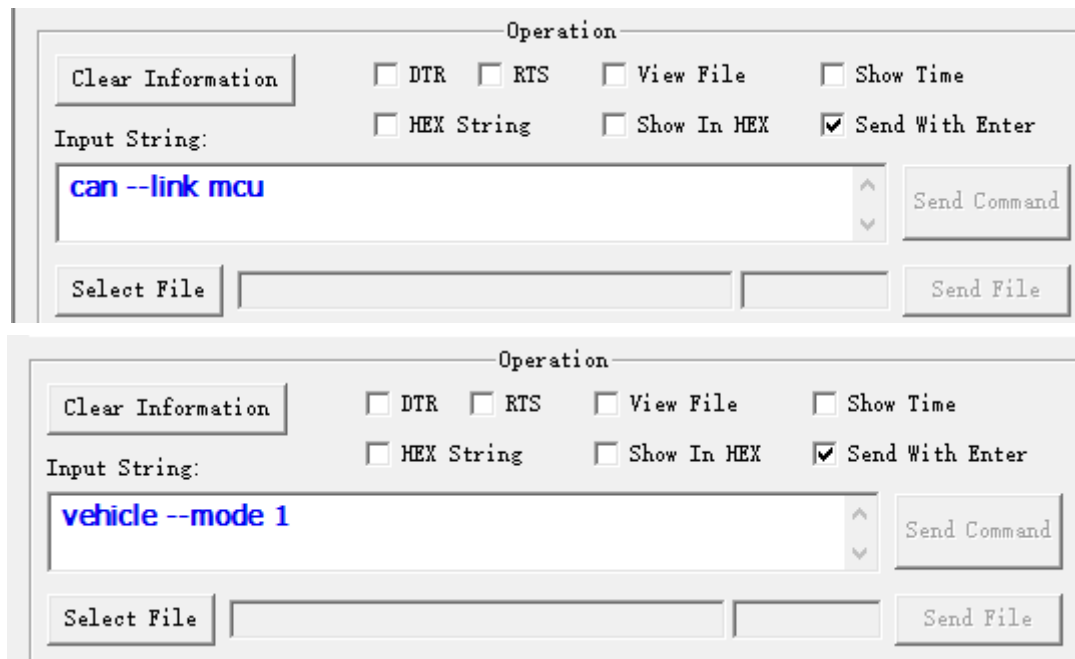

Figure 17: Command Sending
Step 3: Enter `can --link mcu` and `vehicle --mode 1` commands in the command window and send them to EVB, as shown in Figure 17: Command Sending. If a configuration is successful, an “ok” will be returned.